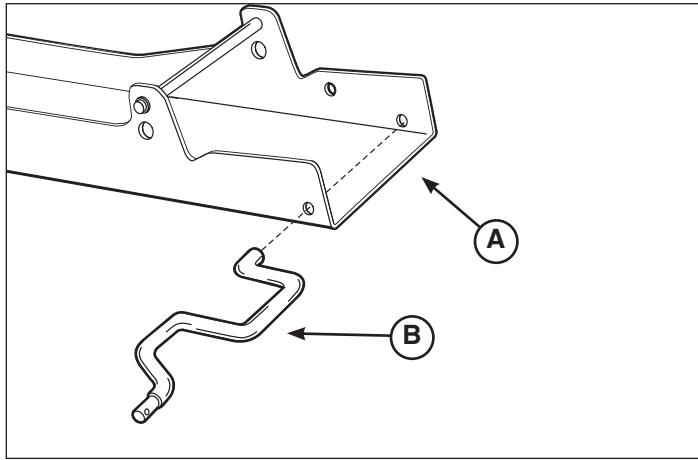

Figure 3
2. On right side of reach (A, Figure 3), install the bell crank (B) through the front holes.